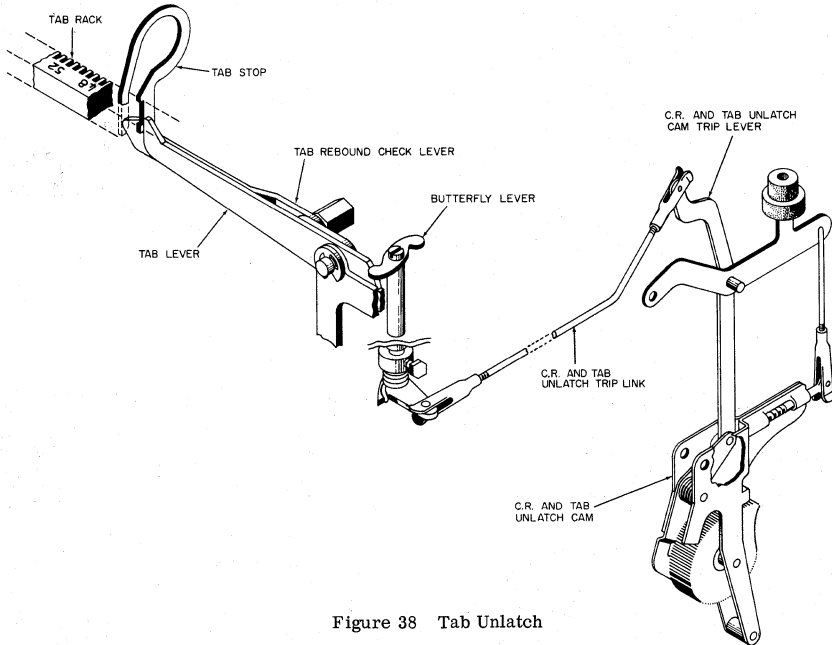

Figure 38 Tab Unlatch
18. The carriage return and tab unlatch cam trip link (Figure 38) should be adjusted carefully because it releases the CR & Tab unlatch cam through the CR & Tab unlatch cam trip lever, and therefore is a "finger on the key lever", although the mechanism is machine actuated.